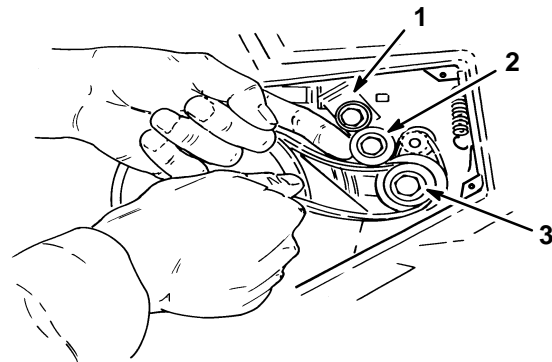
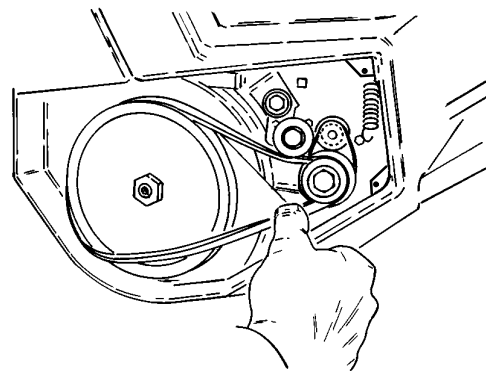

Figure 19
Figure 20
4. Slip new belt over small pulley. Lift up idler arm and slip belt under idler pulley (Fig. 19). Rotate rotor with left hand while walking (sliding) belt onto large pulley with right hand (Fig. 20).
9. Slip large belt over small pulley (Fig. 20). Refer to Large Belt Replacement, steps 4-6.